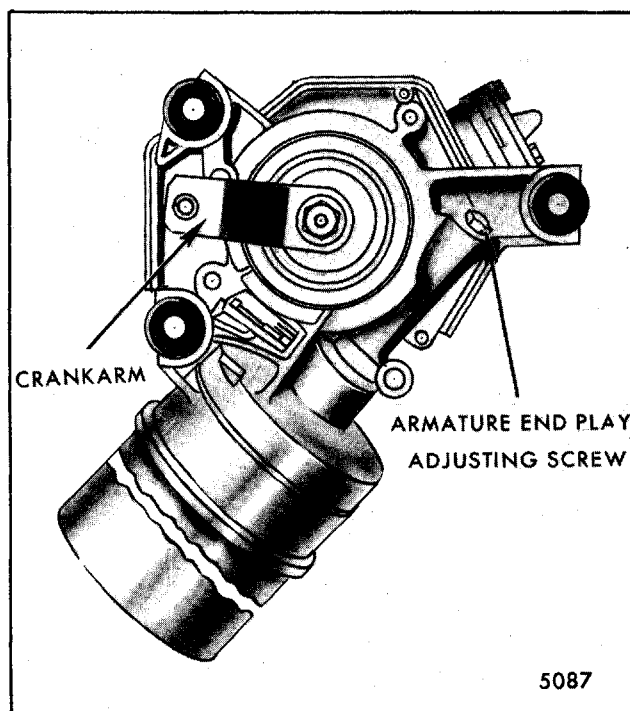

Fig. 2-51-Wiper Motor and Crank Arm in Park Position
13. Adjust armature end play screw (Fig. 2-51).
8. Operate wiper to park position and install crank arm in the approximate position shown in Figure 2-51.
1. Loosen adjusting screw locknut (Fig. 2-51) and tighten or loosen the adjusting screw as required until end of screw barely touches end of armature.